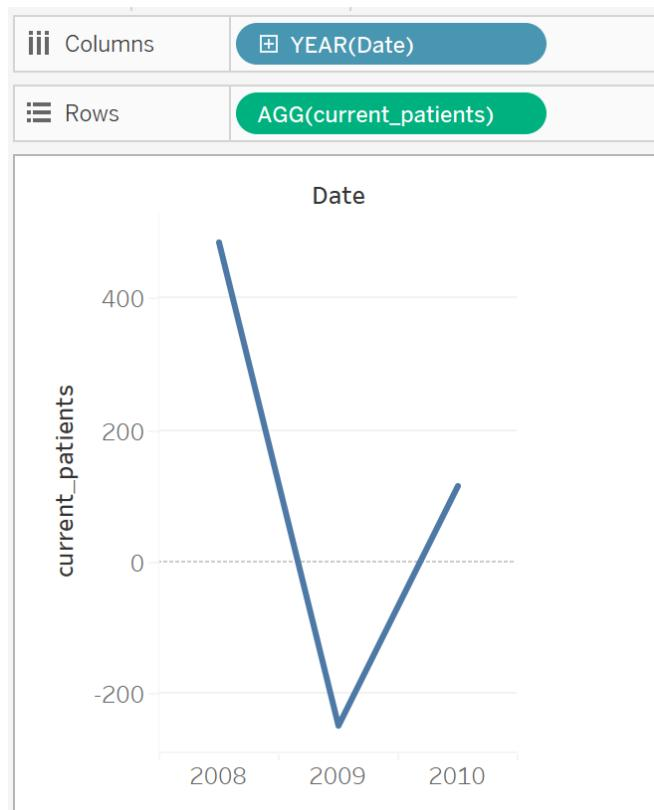

Figure 8.81: Adding a calculation to the view
6. Add a table calculation to **current\_patients**, as shown in the following figure similar to how we did it in *Step 3*. Refer to *Figure 8.81*: